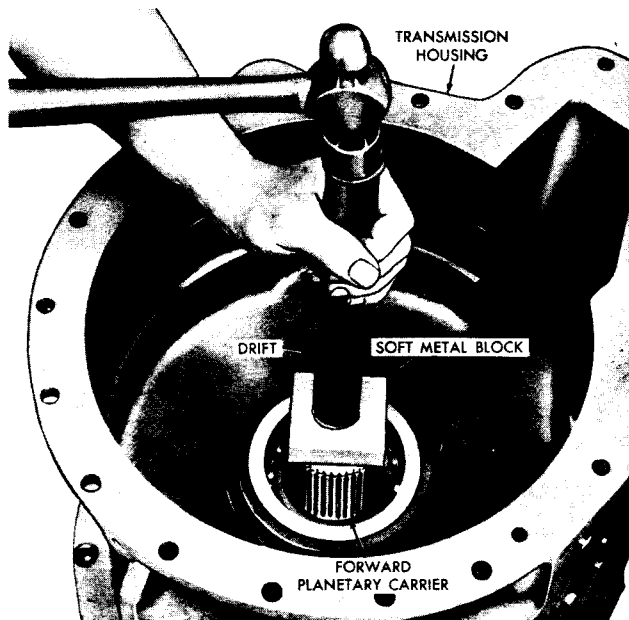

Fig. V-23. Removing forward planetary carrier assembly
(1) Place a block of soft metal or hard wood on the hub of the forward planetary. Using a heavy drift and hammer, drive the forward planetary carrier out of the ball bearing (fig. V-23).